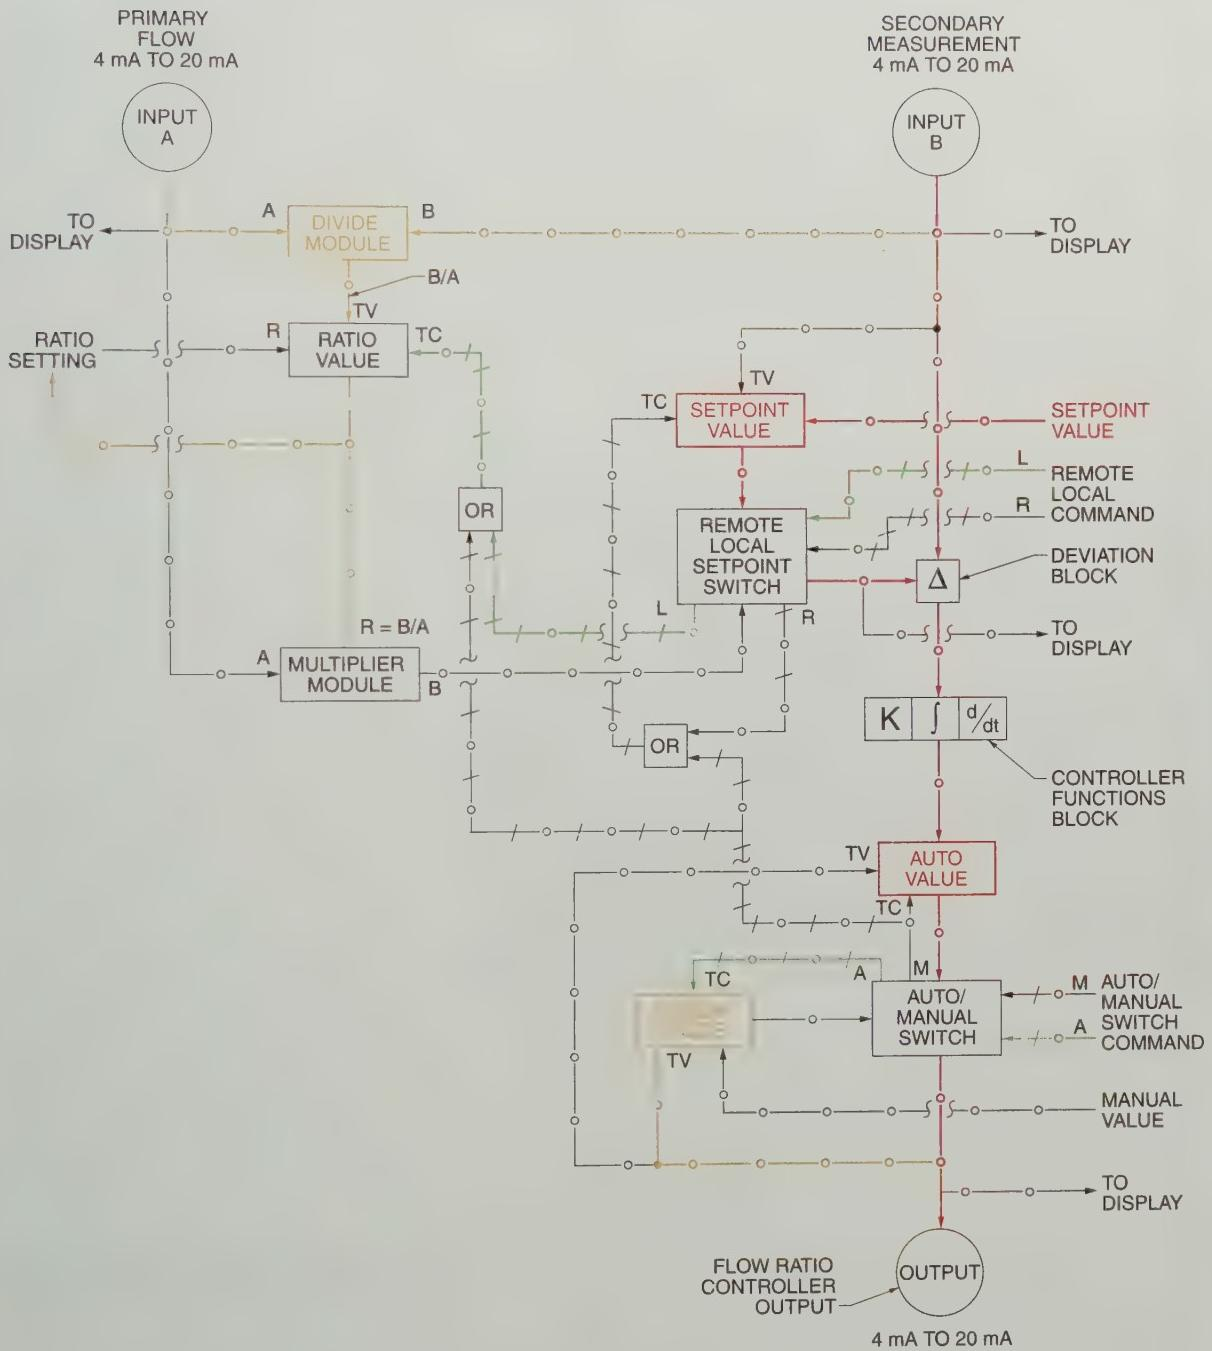

Figure 49-3. A local setpoint in a ratio controller takes the primary flow controller out of the control loop.
Ratio Controller Local Setpoint. Switching the normal flow ratio operation to local setpoint mode generates a few changes. See **Figure 49-3**. With the R/L setpoint switch in the local position, the R/L setpoint switch sends a track command (TC), as shown in green, through the R/L setpoint switch to the ratio value block. Thus the ratio value block tracks the output of the divide module. The output of the divide module is the secondary flow divided by the primary flow. The R/L setpoint switch uses the operator-generated flow setpoint value and compares it to the secondary flow measurement in the deviation block. The other operations of the flow controller work as described in the normal flow ratio operation.